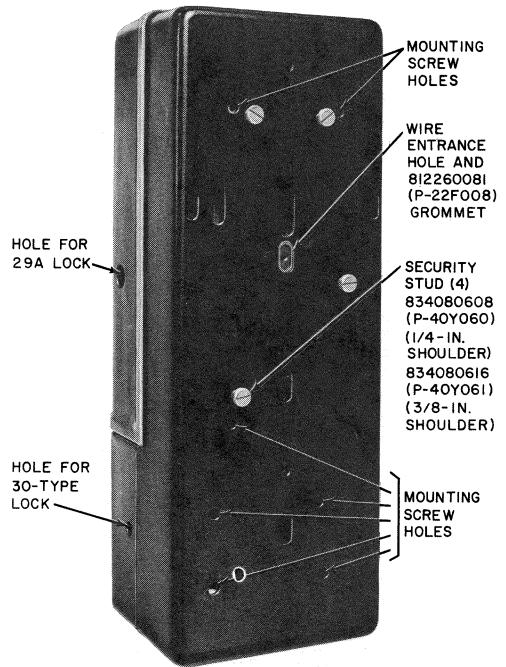

Fig. 11—Location of Mounting Screw Holes and Security Studs in 1-Type Set
**3.05** Refer to Fig. 11, 12 and Tables G, H for security stud requirements.